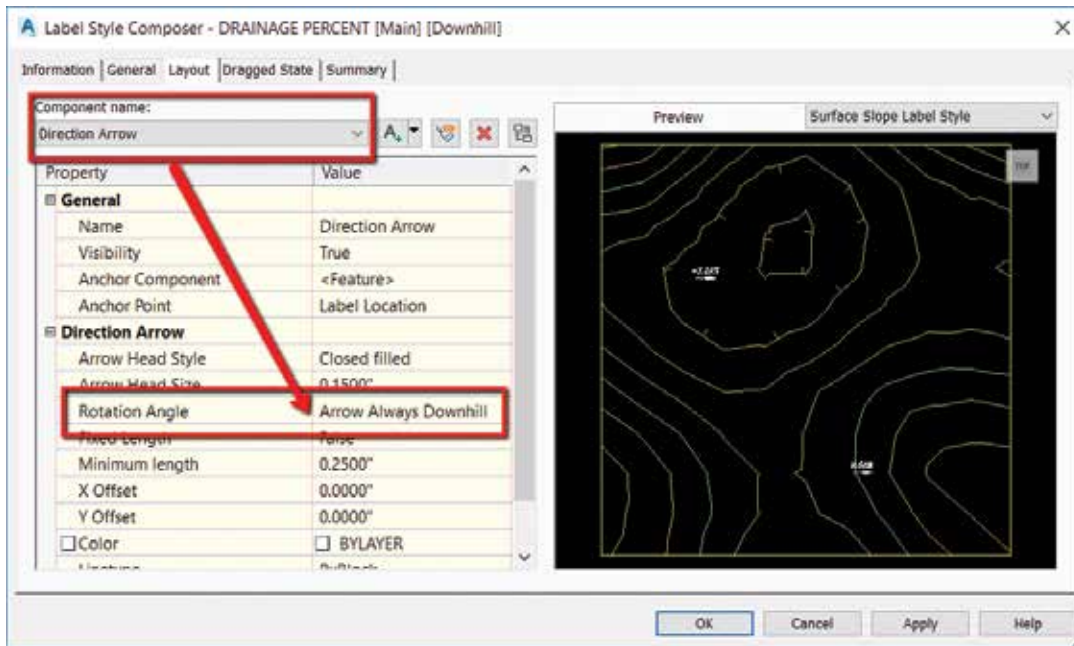

Figure 9
- This expression gets applied to the Rotation Angle of the direction arrow component. See Figure 9.